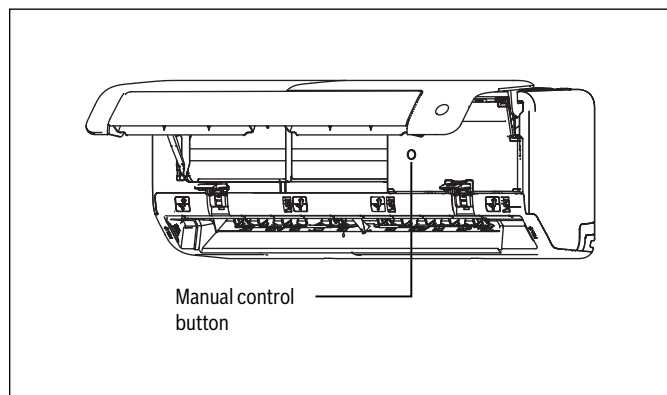

Figure 48
2. Locate the MANUAL CONTROL button on the right-hand side panel of the unit. See Fig.48.